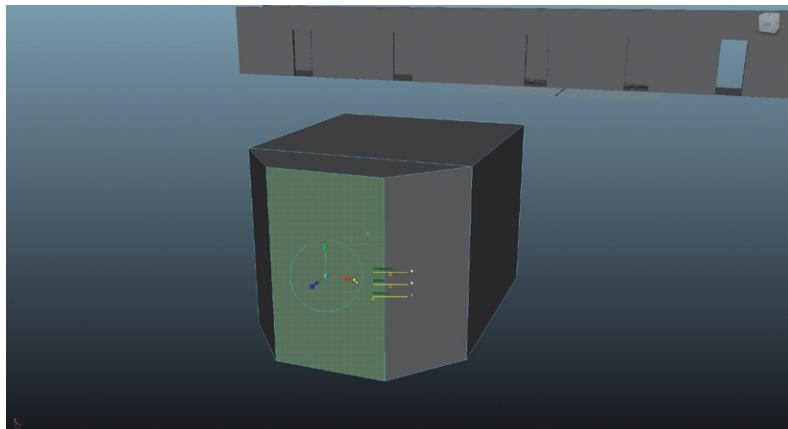

FIG. 3.21 Scaling an extruded face.
Step 35: Scale the new face down. Still within the same Extrude manipulator tool, scale the face in X by click-dragging on the Scale X handle (the red cube). Just eyeball it for now to look similar to Fig. 3.21.